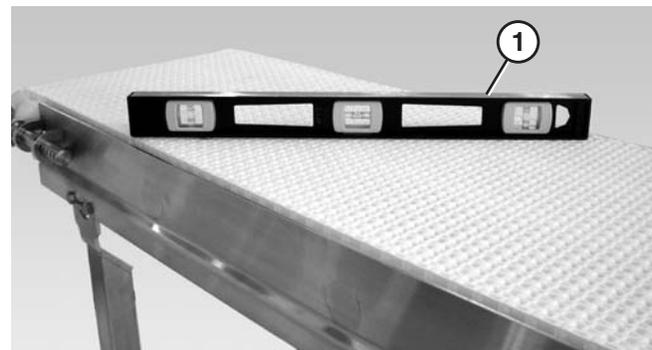

Figure 18
3. Use a level (Figure 18, item 1) to verify that both stand legs are the same height.